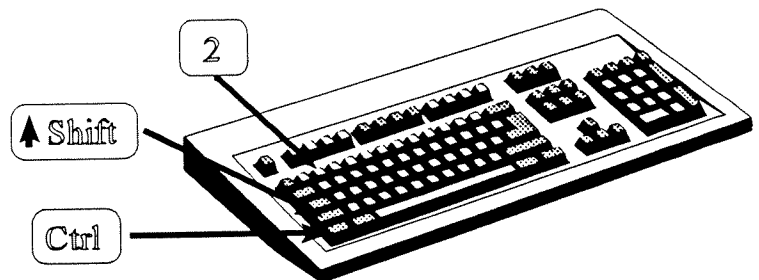

Figure 2.10 Resetting ID Number
- ✓ If the display shows **SELECT FUNCTION** skip to the next step. If **SELECT FUNCTION** does not display check status of the **On-Line** cursor. If it is not illuminated, the Master Memory PCB and Satellite Logic PCB are not communicating. If the cursor is illuminated, first disconnect any remote satellites from the master's TNET port marked **COMM**. Next with the program keyboard connected and the Program Mode keyswitch in the **LOCAL CHANGE** position, press and hold the **Shift**, **Ctrl**, and **2** keys for a count of five, then press **ESC**. The prompt **SELECT FUNCTION** should then display. (Figure 2.10). If not, turn the scale power off and on. This procedure forces the Memory PCB to retrieve the Scale Address Number of the Logic PCB and writes it to RAM. This ID number is then used whenever the keyswitch is turned to **LOCAL CHANGE**.
- ✓ If the display shows **SELECT FUNCTION** skip to the next step. If **SELECT FUNCTION** does not display, check the status of the **On-Line** cursor. If it is not illuminated, the Master Memory PCB and Satellite Logic PCB are not communicating. If the cursor is illuminated, first disconnect any remote satellites from the master's TNET port marked **COMM**. Next plug in the program keyboard and turn Program Mode keyswitch to the **LOCAL CHANGE** position. Press and hold the **Shift**, **Ctrl**, and **2** keys for a count of five, then press **ESC**. The prompt **SELECT FUNCTION** should display. (Figure 2.10). If not, turn the power off, then on. This procedure retrieves the Scale Address Number of the Logic PCB and writes it to RAM. This ID number is used whenever the keyswitch is turned to **LOCAL CHANGE**.